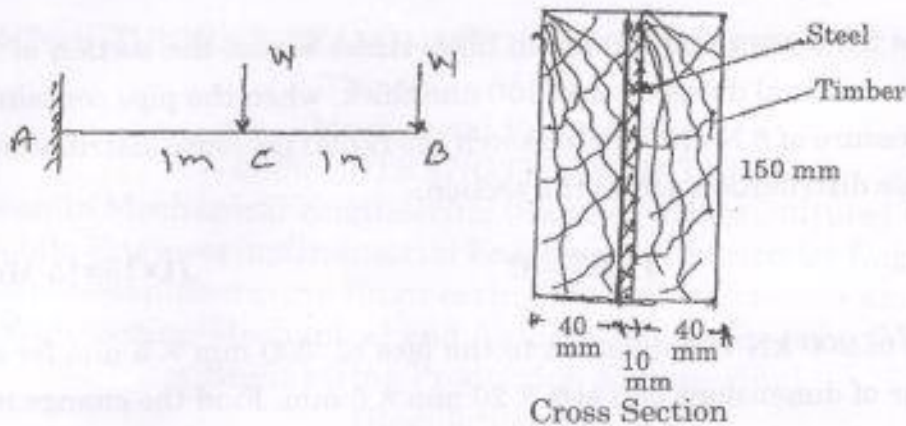

Fig. Q.12(b)(ii)
- ii) A cantilever beam is made up of a flitched section as shown in figure Q. 12 b (ii). If the allowable bending stresses in steel and timber are respectively 165 N/mm^2 and 8.5 N/mm^2 find the value of W .